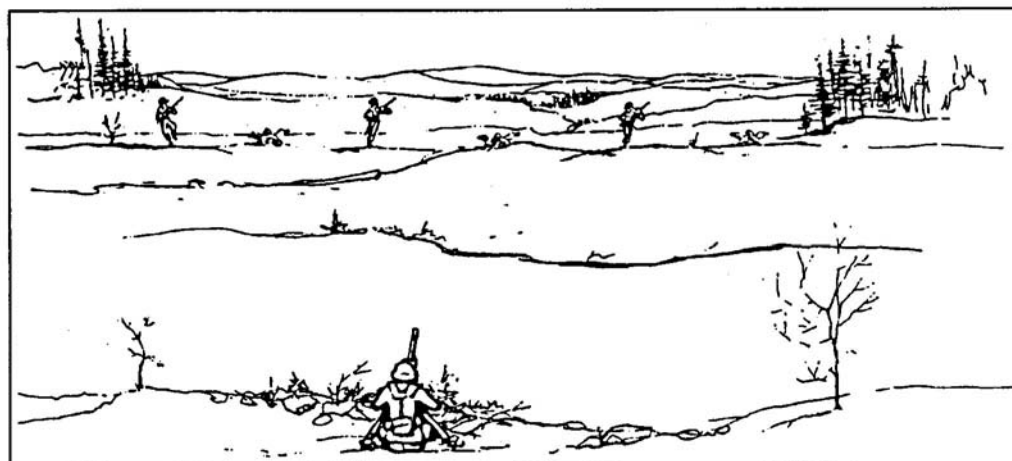

Figure 8. Linear target.
- (2) Linear target. Initially aim just outside of either flank or fire. Traverse fire back and forth from flank to flank, covering the entire target area (Figure 8).